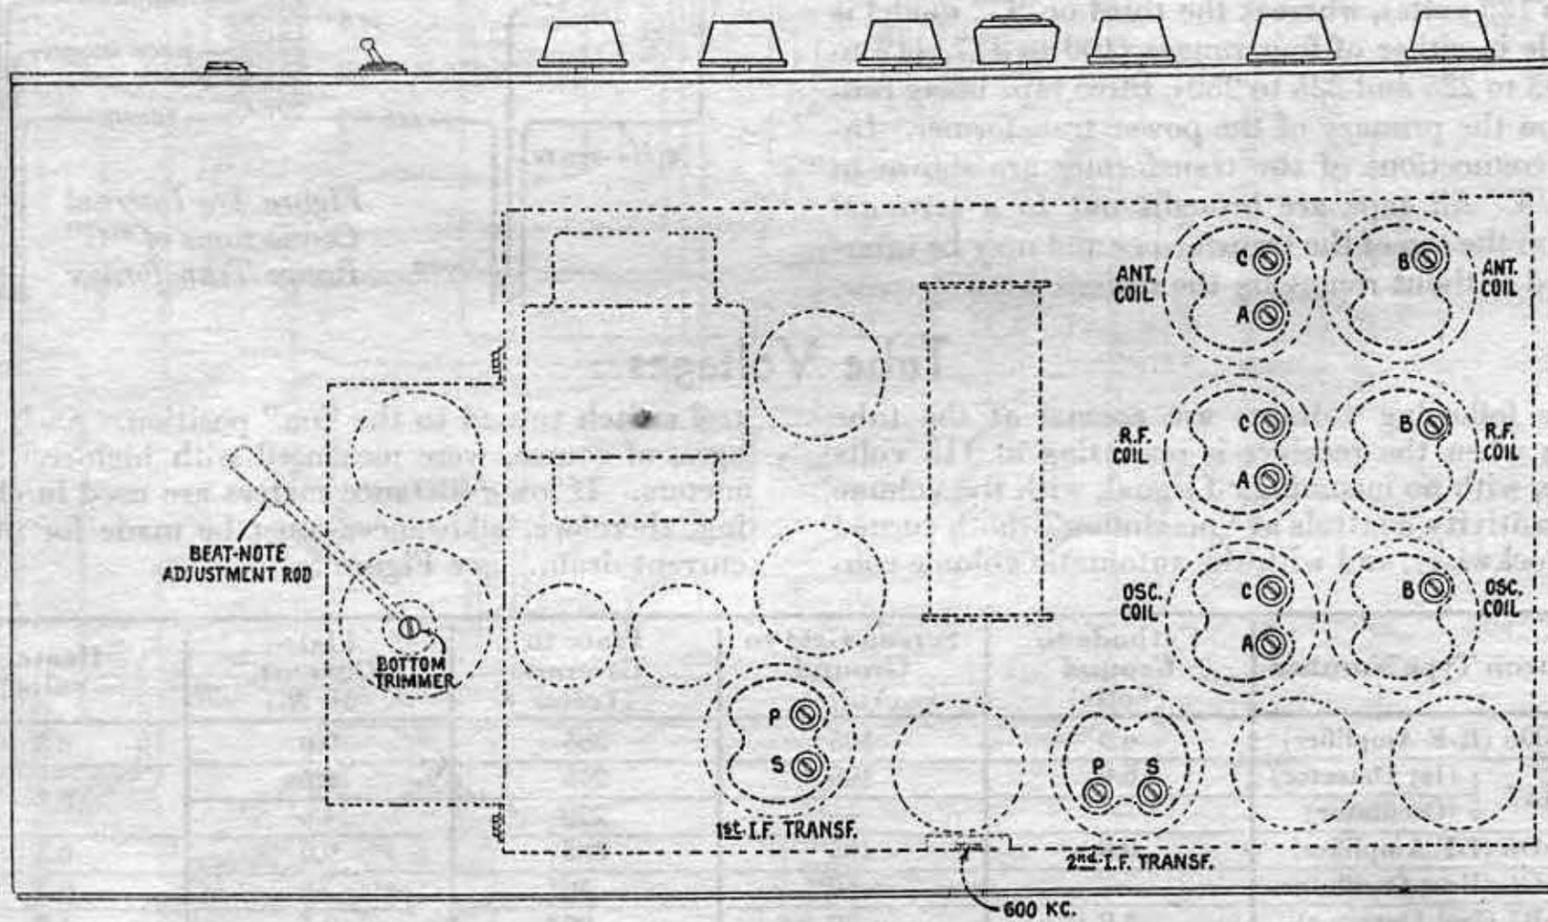

Figure 6—Locations of Trimmers (viewing bottom of case)
This receiver, of course, was aligned at the factory, but should be checked regularly (preferably once every six months) to insure best possible results. Adjustments when necessary can be performed easily since all trimmer capacitors are accessible through openings in the external case as shown in Figure 6. If desired, however, the chassis can be withdrawn upon removal of the front panel and four mounting screws.
Both the primary and the secondary circuits of the two coupling transformers for the i-f stage are tuned. Thus, four trimmers may require adjustment to the nominal intermediate frequency—460 kilocycles. To effect these adjustments, refer to Figure 6 and proceed as follows:
The r-f amplifier, oscillator and first detector stages include a total of four trimmers in band A and totals of three trimmers each in bands B and C. These bands should be aligned individually and in alphabetical sequence. Care must be used to avoid disturbing the adjustments of trimmers not involved in the band under test. Nominal line-up frequencies for band A are 600 and 1720 kilocycles, while bands B and C are aligned at 5160 and 18000 kilocycles, respectively. For these adjustments, refer to Figure 6 and proceed as follows:
- (b) Place test oscillator in operation at 1720 kilocycles, set dial pointer at 1720 kilocycles and adjust the three trimmers designated by the letter "A" (Figure 6) for maximum output.
- (a) Follow the same procedure as for band B (6) except use a test frequency of 18000 kilocycles and check for the image signal at 17,080 kilocycles.